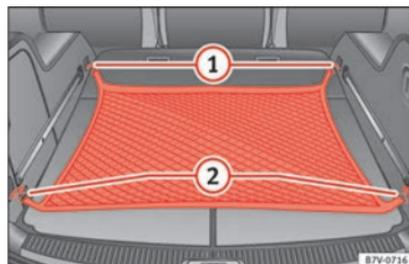

Fig. 173 In the luggage compartment: net used on secured baggage
- Hook the baggage net into the fastening rings **» Fig. 173** ① and ②.
- Carefully unhook the baggage net hooks from the fastening rings **» Fig. 173** ①. **»**
- Carefully unhook the baggage net hooks from the fastening rings » Fig. 173 ②.